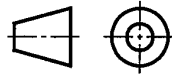

FIG. 4 FÍOR 4
4. The elevation and plan of a thin sheetmetal transition piece, which is connected to a circular duct, is shown in Fig. 4.